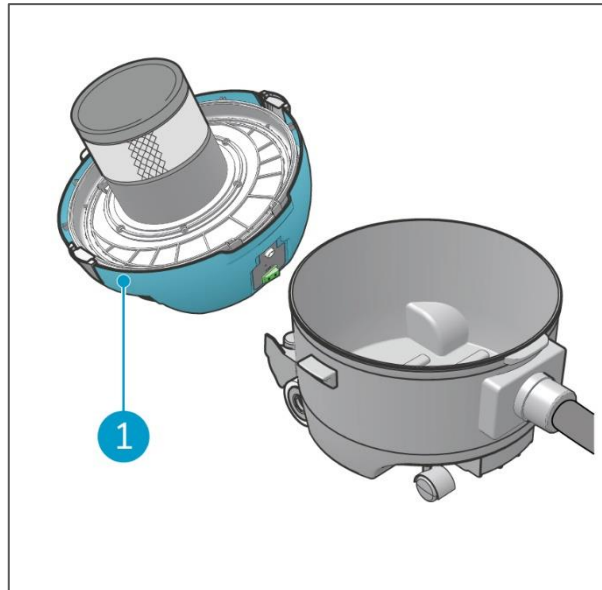

Figure 24
5. Place the head on a level surface (Figure 24, pos 1).